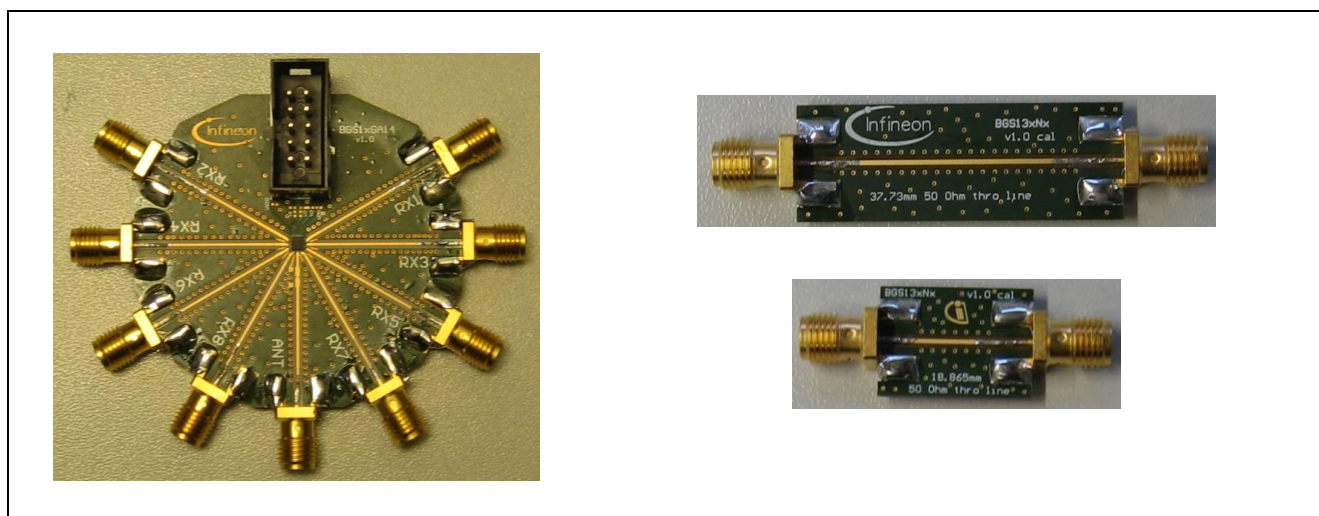

Figure 42 BGS15GA14 Application Board and deembedding kit
- Measure S21 of the half-thru structure (Figure 42, smallest board) with port extension enabled. The result is the de-embedding of S21 including only one SMA connector and the transmission line to the chip. Store this as S-parameter (s2p) file.
- Check insertion loss with the de-embedding through board (Figure 42 right upper board)